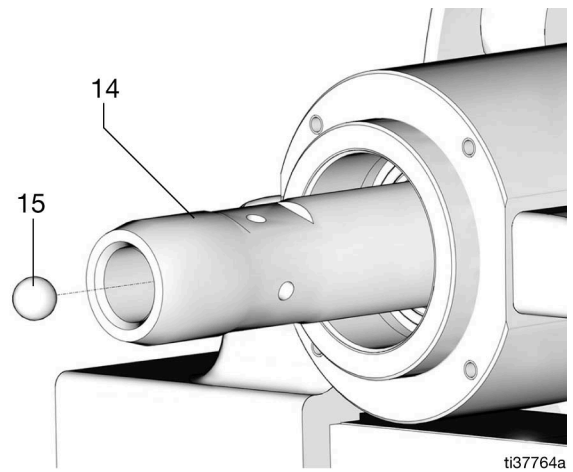

FIG. 13
- Remove the check ball (15) from inside of the displacement rod (14) and set aside (FIG. 13).